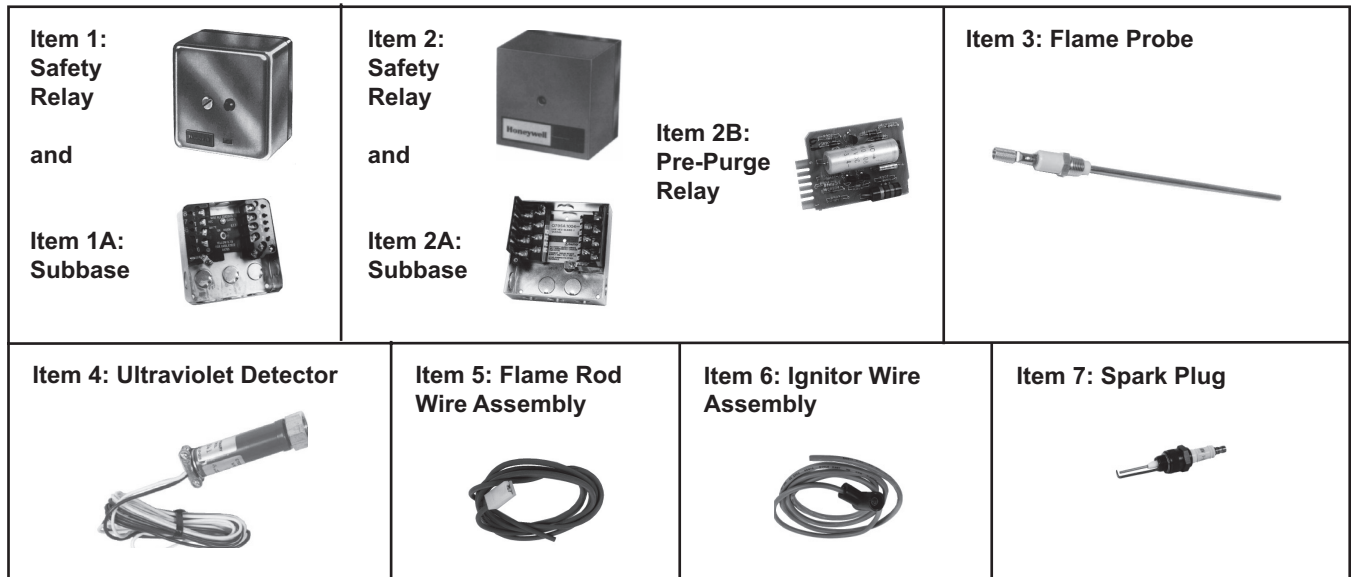

Figure 11. Spark Ignition System Components—Units Manufactured *Before* FEB 1996
- Spark ignition components are listed in Table 19 and shown in Figure 11.